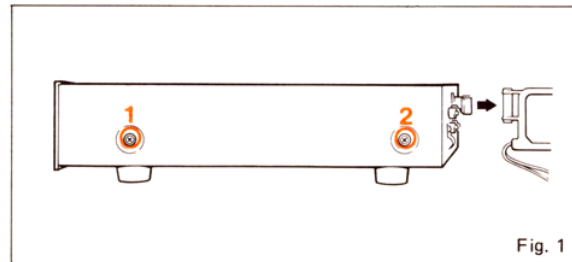

Fig. 1
Detach the AM loop antenna from the antennaholder. Remove screws ① and ② in Fig. 1 from both sides, and then remove the top cover.